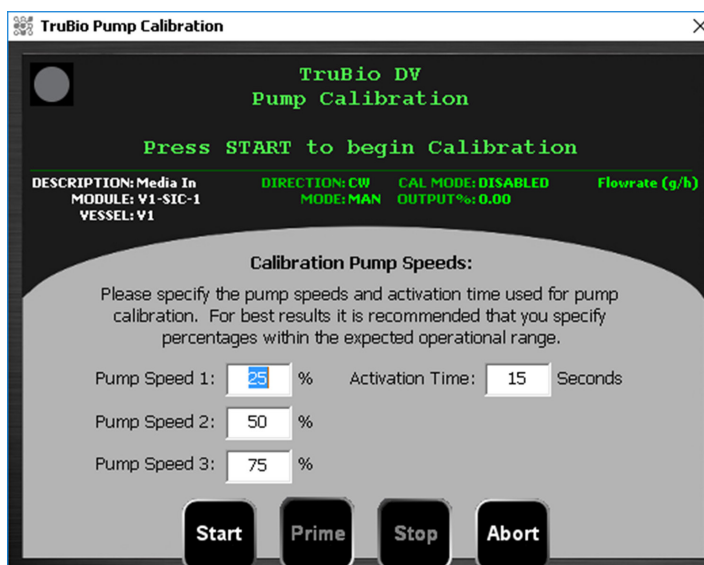

Figure 3.31. Calibration pump speeds screen.
- Click **Calibrate**, which opens the screen shown in Figure 3.31. The screen displays the default settings for the calibration.